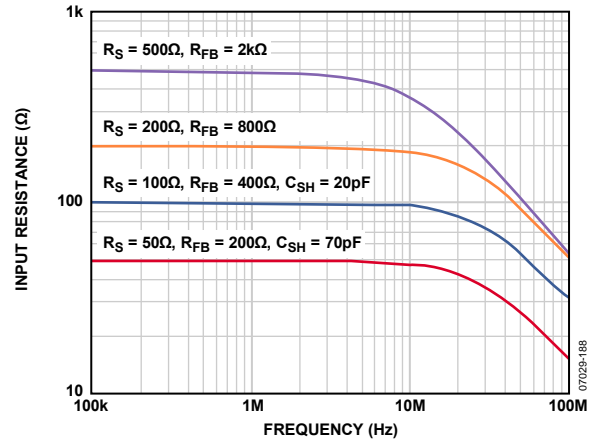

Figure 39.  $R_{IN}$  vs. Frequency for Various Values of  $R_{FB}$  (Effects of  $R_S$  and  $C_{SH}$  Are Also Shown)
The bandwidth (BW) of the LNA is greater than 100 MHz. Ultimately, the BW of the LNA limits the accuracy of the synthesized  $R_{IN}$ . For  $R_{IN} = R_S$  up to about 200 Ω, the best match is between 100 kHz and 10 MHz, where the lower frequency limit is determined by the size of the ac-coupling capacitors, and the upper limit is determined by the LNA BW. Furthermore, the input capacitance and  $R_S$  limit the BW at higher frequencies. Figure 39 shows  $R_{IN}$  vs. frequency for various values of  $R_{FB}$ .